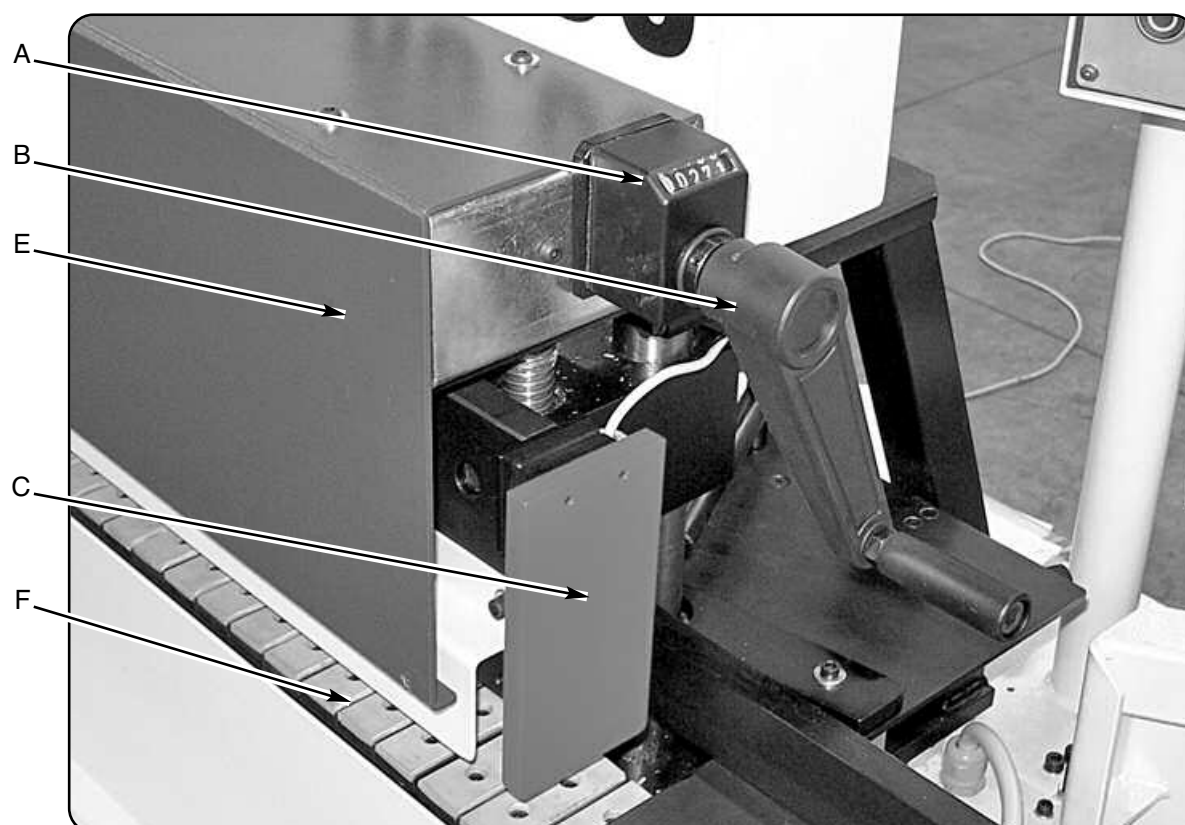

fig. 3.10.1
- lift the pressure bar with wheel handle B fig. 3.10.1
Adjust the height of the pressure bar in regards to the panel thickness to be edged with the wheel handle B fig. 3.10.1 and read measurement on the numerical indicator A fig. 3.10.1.
The plastic plate C fig. 3.10.1 functions as a "thickness limit" of the panels to be edged.